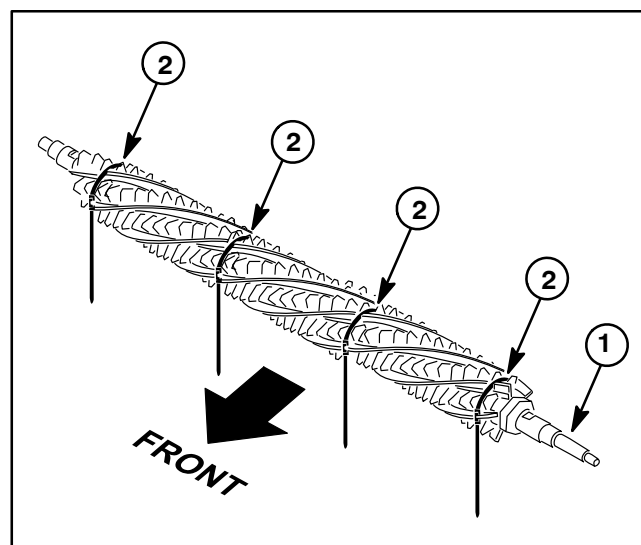

Figure 19
5. If groomer reel is equipped with broomer kit, position broomer brushes to reel blades and secure with straps. Straps should be wrapped around the groomer assembly as shown in Figure 19 and between blades 1-2, 14-15, 28-29 and 41-42. Pull straps tight and cut off strap extension approximately 1/4" (6 mm) beyond retainer.